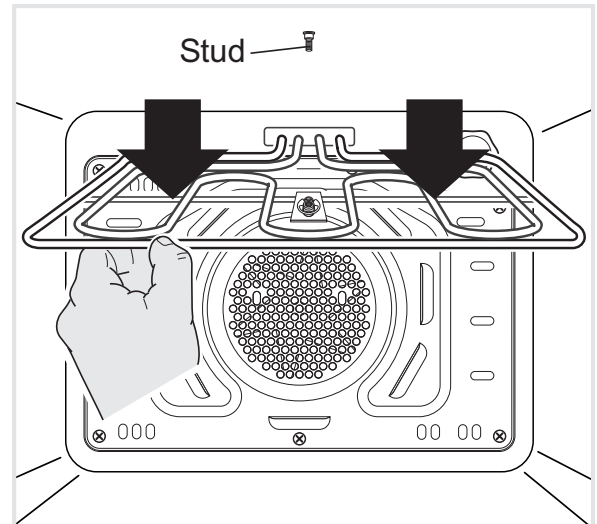

Figure 10b
- The grill is secured to the rear wall of the oven on a hinge system that allows it to be lowered to allow proper access when cleaning the oven ceiling (fig. 10b).